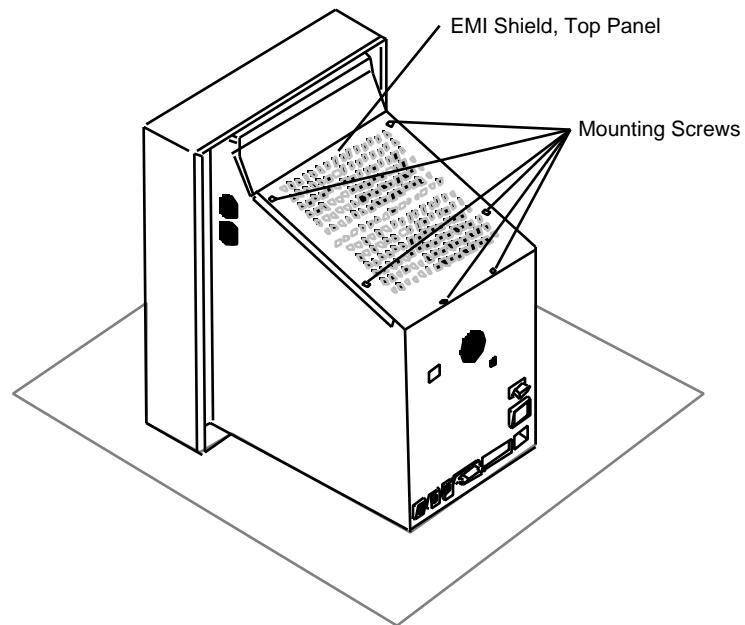

FIGURE 2
3. Remove the six screws that secure the top panel of the EMI shield to the chassis (**Figure 2**). Pull the top panel off the chassis.